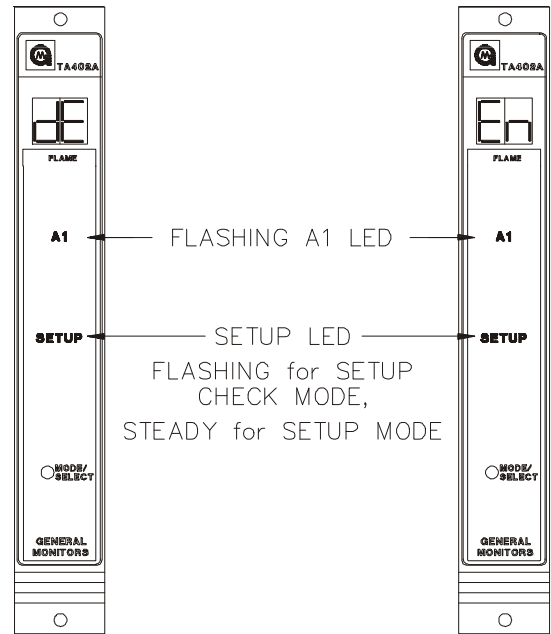

Figure 19
- Next, the **A1** LED on the front panel will be flashing while the Energized/De-energized option is displayed (figure 19). The display will indicate the current selection, (**En** or **dE**). Press the Mode/Select switch until the desired option is displayed. De-Energized is the factory default for this selection.